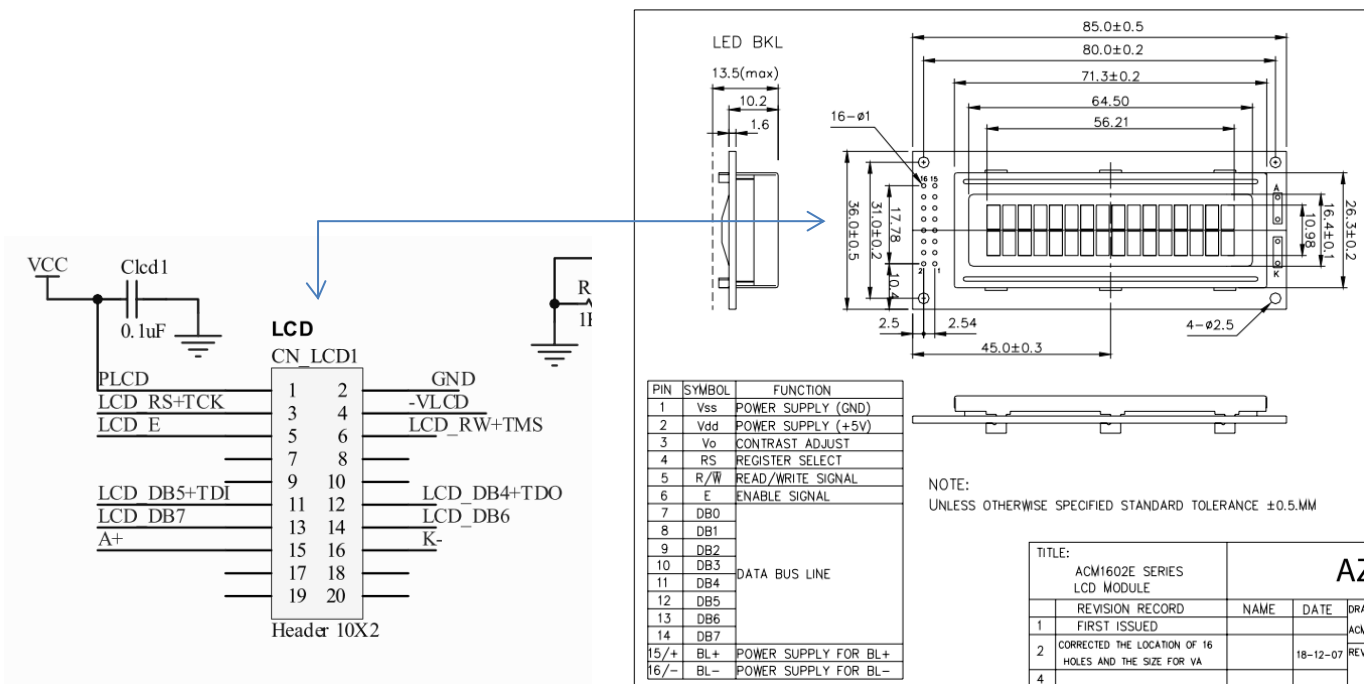

Figure 27 – Connection of Conventional LCD, here ACM1602 type to CN_LCD1 – See page 2 of the CL2bm1 schematic in the repository.
3.c.2 Example 3 hardware connection: The cabling of the display follows ACM1602 [ref17] but there are multiple manufacturers offering the same type of display (Figure 27). This display has an LED backlight which can be switched On or Off via the A+ and K- pins and for the CL2bm1 board through a driver transistor Q2 connected to the PD.6 pin. There are two connectors for the display on CL2bm1, the CN_LCD1 uses a 4-bit interface for the most common pinout.